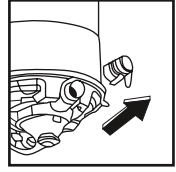

Fig. 2
2. Remove the noise diffuser from the blower port (Fig. 2)